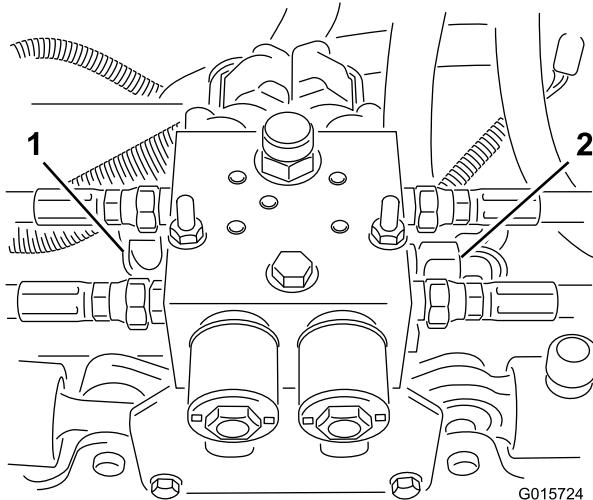

Figure 6
Note: Loosen the 2 hydraulic connectors on the right side and the gauge port (Figure 6).
- 13. Remove the hydraulic block from the mounting bracket by removing 2 bolts and 2 locknuts (Figure 6).